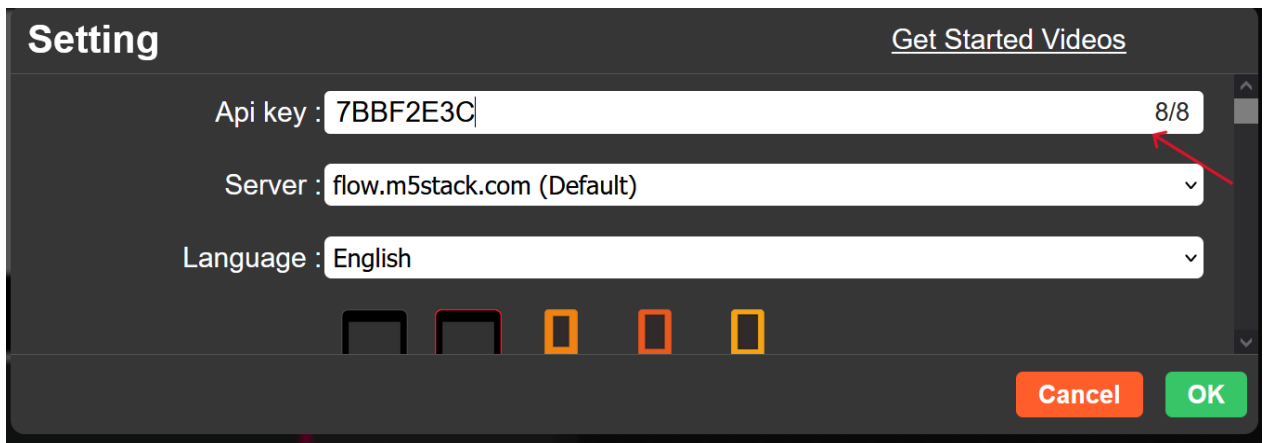

Figure 7: Uiflow configuration and connect to m5stack
- Then press OK as shown in figure 7 below.